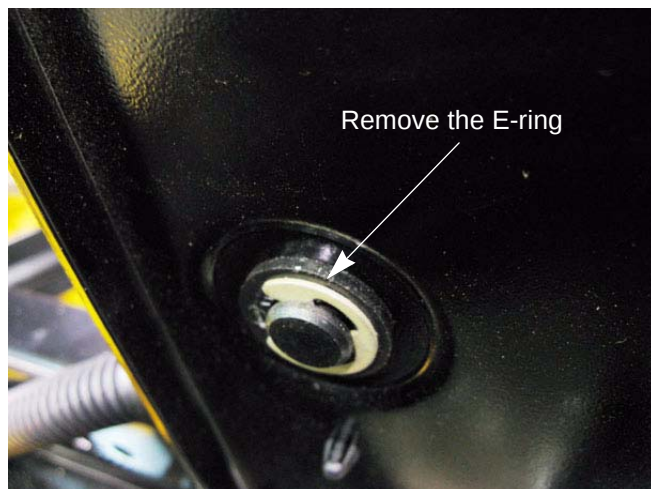

Figure 8.34
5. Remove the E-clips that retain the bushings. See Figure 8.34.